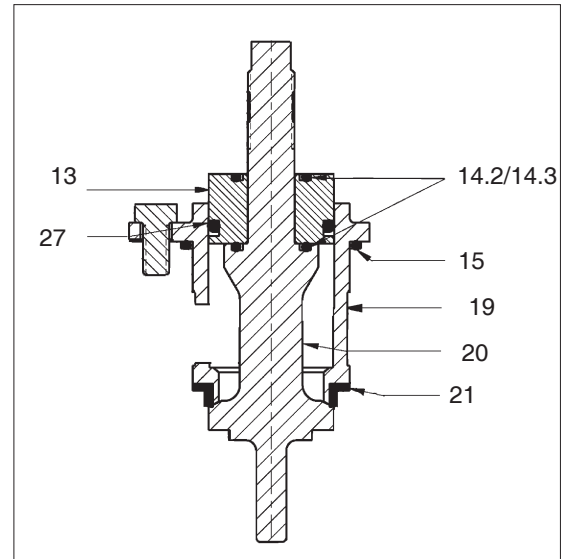

Figure 1: Assembled ITA
5. The Inner Trim is removed and replaced back in the body (23) as an assemblage of parts. The **Inner Trim Assembly**, hereinafter called **ITA**, consists of following parts: (See Figure 1)
1. See Figure 1 for details:
- a. While holding the cage (19) pull the valve plug (20) downwards and through the guide bearing (13) and out the bottom of the cage.
- b. Remove the guide bearing (13) from the upper end of the cage (19).
- c. Remove wiper seal (17) from guide bearing (13).